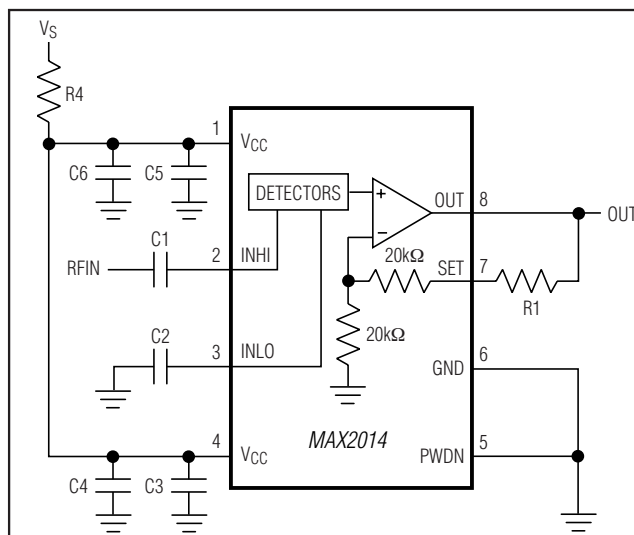

Figure 1. Detector-Mode (RSSI) Typical Application Circuit
(Typical Application Circuit (Figure 1),  $V_S = +3.3V$ ,  $f_{RF} = 50MHz$  to  $1000MHz$ ,  $R_1 = 0\Omega$ ,  $R_4 = 0\Omega$ ,  $R_L = 10k\Omega$ ,  $T_A = -40^\circ C$  to  $+85^\circ C$ , unless otherwise noted. Typical values are at  $T_A = +25^\circ C$ , unless otherwise noted.) (Note 2)
(Typical Application Circuit (Figure 1),  $V_S = V_{CC} = 3.3V$ ,  $P_{IN} = -10dBm$ ,  $f_{IN} = 100MHz$ ,  $R_1 = 0\Omega$ ,  $R_4 = 0\Omega$ ,  $R_L = 10k\Omega$ ,  $V_{PWRN} = 0V$ ,  $T_A = +25^\circ C$ , unless otherwise noted.)
(Typical Application Circuit (Figure 1),  $V_S = V_{CC} = 3.3V$ ,  $P_{IN} = -10dBm$ ,  $f_{IN} = 100MHz$ ,  $R_1 = 0\Omega$ ,  $R_4 = 0\Omega$ ,  $R_L = 10k\Omega$ ,  $V_{PWDN} = 0V$ ,  $T_A = +25^\circ C$ , unless otherwise noted.)
The MAX2014 differential RF input (INHI, INLO) allows for broadband signals between 50MHz and 1000MHz. For single-ended signals, AC-couple INLO to ground. The RF inputs are internally biased and need to be AC-coupled using 680pF capacitors as shown in Figures 1 and 2. An internal 50Ω resistor between INHI and INLO provides a good 50MHz to 1000MHz match.
For power-supply voltages (VS) between 2.7V and 3.6V, set R4 = 0Ω (see the typical application circuits, Figures 1 and 2).
In detector mode, the MAX2014 acts like an RSSI, which provides an output voltage proportional to the input power. This is accomplished by providing a feedback path from OUT to SET (R1 = 0Ω; see Figure 1).